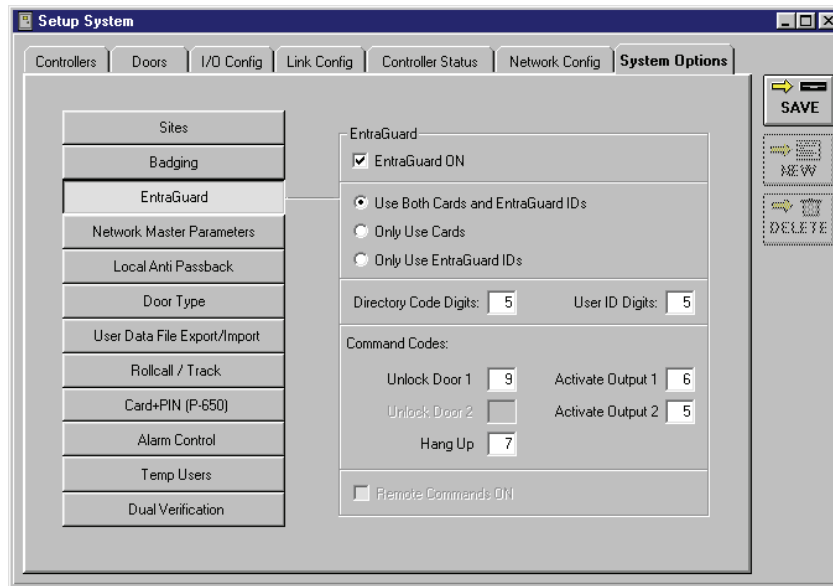

Figure 10-3: System Options Tab - EntraGuard Enabled
5. The EntraGuard fields change from grey to black letting you know it is available for editing of specific EntraGuard options (see Figure 10-3 on page 4 of this section).
Command codes are the telephone keys used to perform certain functions such as allow entry through the EntraGuard controlled door, etc. See Figure 10-3 on page 4 of this section for their location in the EntraGuard field.